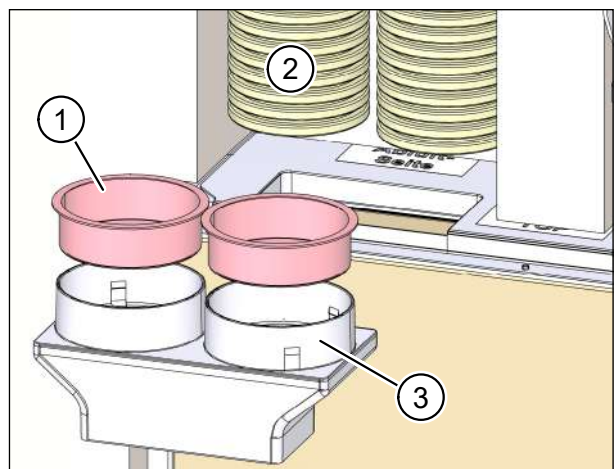

Fig. 55: Cutting flexible pipes to length
- ▶ Remove the red protective cover (item 1 in Fig. 55) from the flexible pipe connection (item 3 in Fig. 55).
- ▶ Shorten the flexible pipes (item 2 in Fig. 55) so that the flexible pipe connection (item 3 in Fig. 55) with the flexible pipes inserted can be pushed into the opening on the wall box.